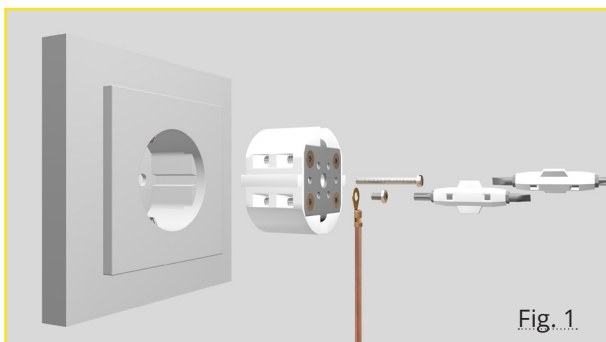

Fig. 1
1. Adapter installation. Look at fig. 1 and 2.
If necessary (not a regulation), the grounding plug can be mechanically fixed with the enclosed screw. Look at fig. 1.